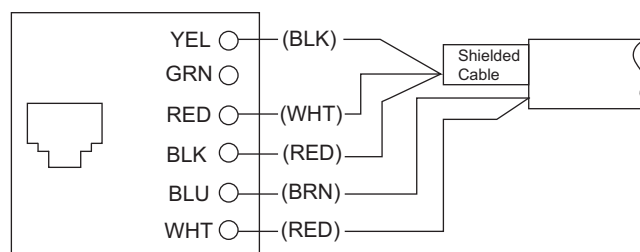

Fig. 4 — Service Port Wiring Detail
2. Attach the forked terminal end of the conduit assembly to the bottom of the utility box. Connect each of the five fork terminals to the modular jack. See Fig. 4.